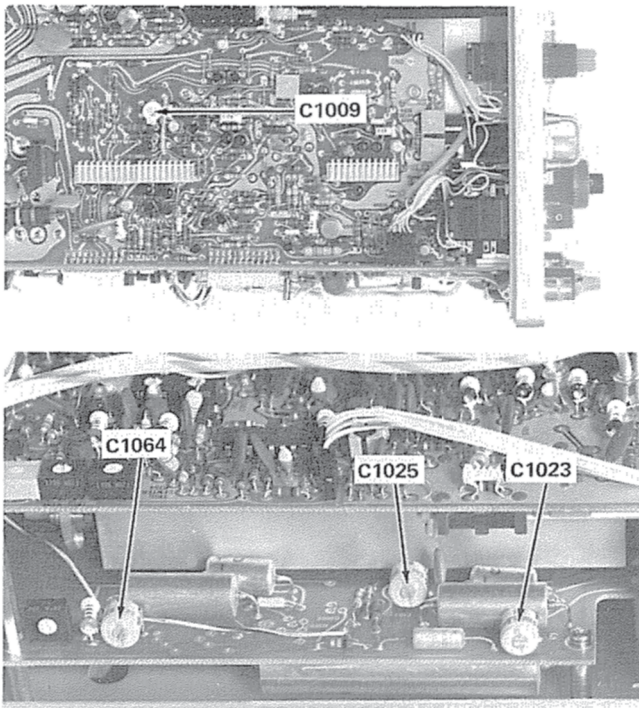

Fig. 5-25. Location of A and B Sweep timing adjustments.
d. ADJUST—C1064 (see Fig. 5-25) with a low-capacitance screwdriver, for 1 time marker/division.
g. ADJUST—C1023 (see Fig. 5-25) with a low-capacitance screwdriver, for 1 time marker/division.
- d. ADJUST—C1025 (see Fig. 5-25) with a low-capacitance screwdriver, for 1 time marker/division.
- n. ADJUST—C1009 (see Fig. 5-25) with a low-capacitance screwdriver for 1 time marker/division.
<http://www.ccskill.com> **Fig. 5-25. Location of A and B Sweep timing adjustments.**